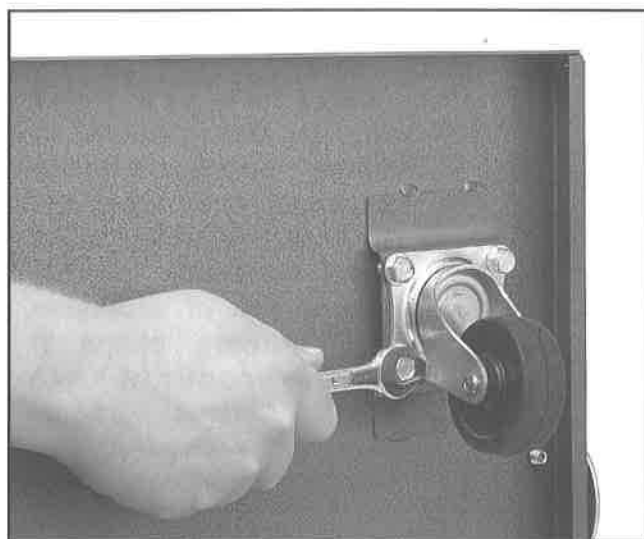

Figure 2. Mounting casters to base.
Position the base plate upside down and locate the casters so they are within easy reach. Mount the casters to the base plate using sixteen (16) $\frac{5}{16}$ "-18 x $\frac{1}{2}$ " hex bolts provided. **See Figure 2.**